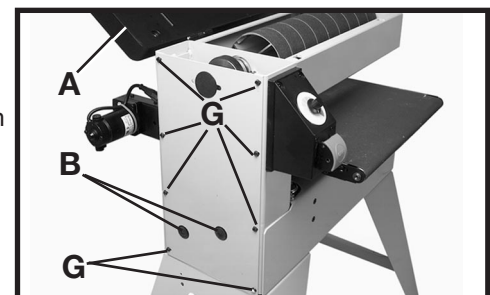

Fig. 25
1. Raise the top drum cover (A) Fig. 25.
2. Remove the two hole plugs (B) Fig. 25.
6. Replace the hole plugs (B) Fig. 25.